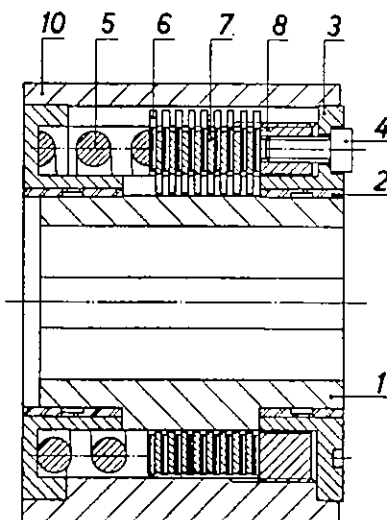
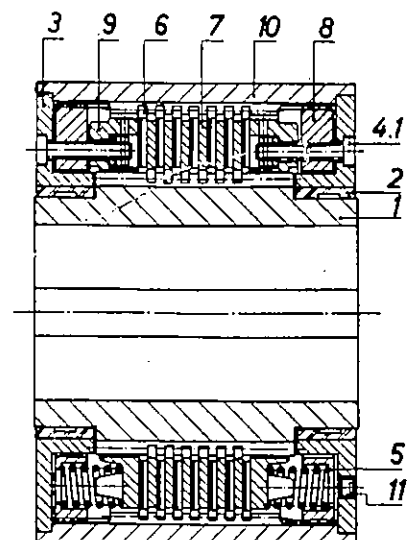

Fig. 1
Fig. 2
Oettinghaus starting clutches are supplied in different designs according to size and the purpose of use. For torque setting the clutches size 07 to 15 have one adjusting nut as shown in Fig. 1 and clutches size 23 and bigger have two adjusting nuts as shown in Fig. 2. The housing (10) is supported on both sides by centering bushes (3) running on the clutch hub (1) and is provided with internal slots or splines for holding the outer discs (6). The inner discs (7) are retained on the hub by slots or splines. The required operating pressure to transmit a specified torque is achieved in the case of the smaller clutches as in Fig. 1 through a central spring, for the larger clutches as in Fig. 2, through multiple springs located in the adjusting nut (5). The adjusting nut (8) and the centering bush (3) are counterlocked by socket head cap screws (4 resp. 4.1) and thereby secured against accidental turning.
On the smaller models 0-700-000/400-07 up to -25 (see Fig. 1) it is possible to set the adjusting nut whilst under pressure. On models 0-700-000/400-31 to -47 (see Fig. 2) the force required is greater. Therefore additional spring support plates (9) are built in, which can be retracted by the locking screws (4.1) before adjusting. The adjusting nut is then released from spring pressure and can be easily turned.
To Fig. 1 and 2
4. cap screw (Fig. 1)
- 4.1 cap screw with retaining nut (Fig. 2)
9. spring support plate (Fig. 2)
4.1 Model 0-700-000/400-07 to 25 (Fig. 1)
4.2 Model 0—700—000/400—31 to 47 (Fig. 2)